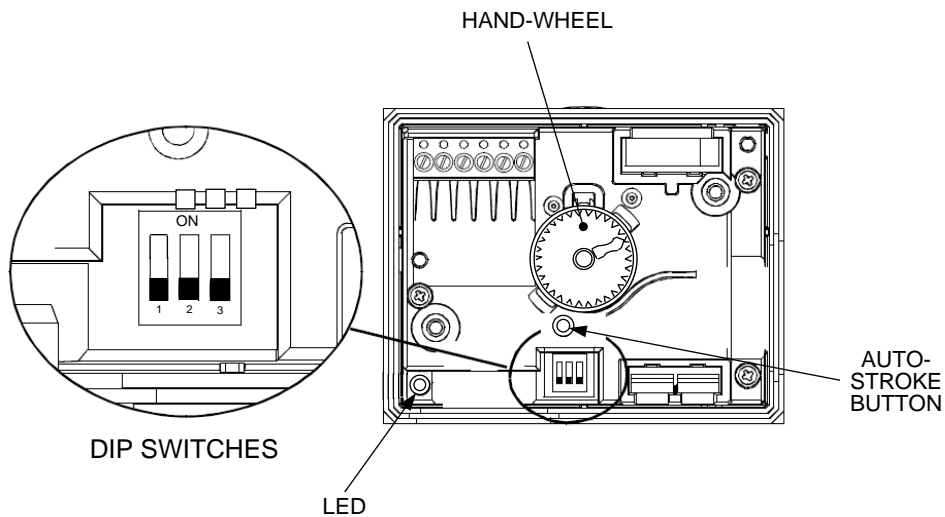

Figure 4-2. Control Valve with Electronics Module Cover Removed
- Remove the Electronics Module cover from the Valve to access the internal components shown in Figure 4-2
- Ensure that all three (3) DIP switches shown in Figure 4-2 are in the OFF (Down) position as shown.
4. Set the ECS/SP Control Box POWER switch to the ON position to apply 24 VAC power to the Control Valve Actuator (pins 1 (G0) and 2 (G)). Ensure the Valve is in the AUTO position, the LED indicator will light green continuously indicating that Valve operation is normal (no faults).
5. Using a pin or paper clip, depress the auto-stroke button in the opening of the terminal housing (Figure 4-2). This will initiate calibration of the Control Valve.
6. During actuator calibration, the LED indicator (Figure 4-2) will flash green for approximately 10 seconds. The Control Valve will be briefly closed and fully opened.